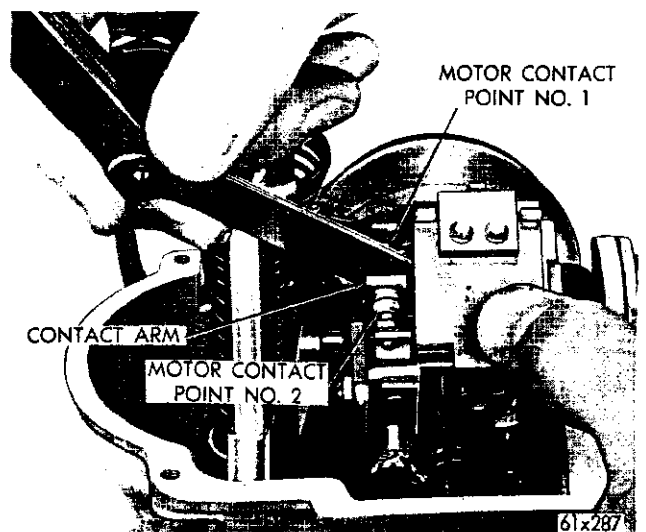

Fig. 40—Measuring Contact No. 1 and Contact Arm Clearance
(8) Remove the sleeve gauge and checking gauge.
(9) Turn the ignition switch "ON". Do not start engine.
(10) Push the locking arm up against the magnet and push down on the latching cap to latch the magnet and locking arm together.
(11) With the contact arm point against the motor contact point #2, measure the clearance between the motor contact point #1 and the contact arm (Fig. 40). The clearance must be .050" to .070".
(12) To adjust, loosen the lock nut on the motor contact point #1 and adjust with a screwdriver .050" to .070" clearance. Retighten the lock nut.
(13) Turn the ignition "OFF". Replace the green wire. Connect the drive cable and recheck the accelerator linkage adjustment. Replace the Auto-Pilot cover.